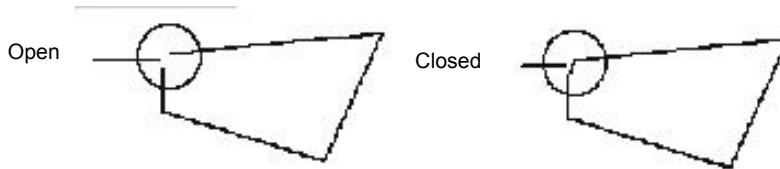

Figure 10-3. Multi-line Drawing: Close Shape
3. From the *General* tab, select **Close shape**. The multi-line object automatically closes. Figure 10-3 illustrates an open and closed multi-line shape.